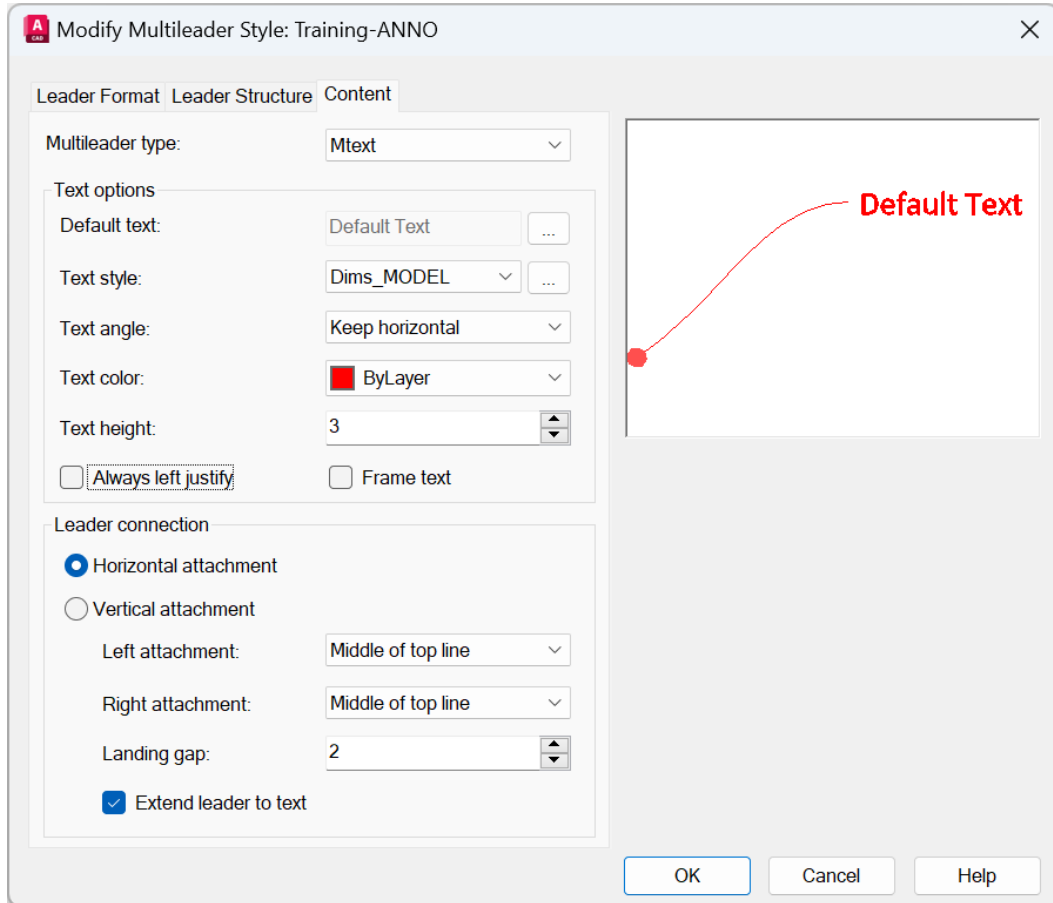

Figure 7.28: The settings in the Content tab
11. Ensure that you have set all the settings shown in *Figure 7.28* in the **Content** tab.